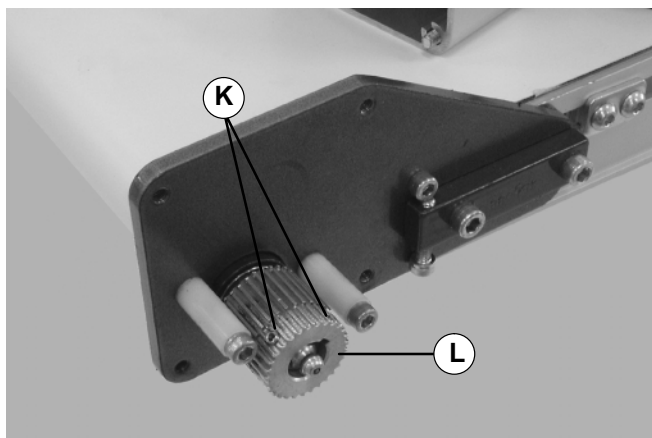

Figure 16
2. Loosen (2) set screws (K of Figure 16) on timing belt pulley (L).